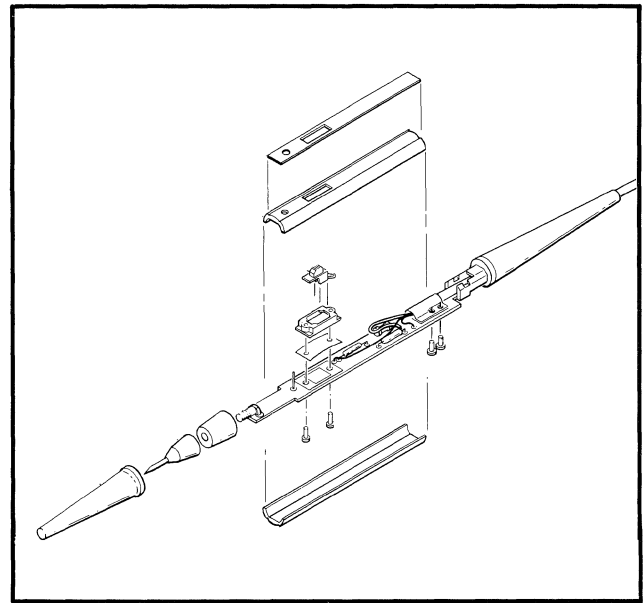

Figure 8-4. Data Probe Disassembly
a. To disassemble the Data Probe, unscrew the Data Probe tip and pull off the red window. Slide the bottom probe body half off first (this is the probe body half without the ground pin or switch). Lift the top probe body off, being careful not to bend the ground pin which protrudes slightly through the probe body half. Note the position of the probe switch key, which may now be removed. The A3 Data Probe Assembly printed circuit board can be separated from the cable assembly by removing the two small screws securing the pc board to the crimped cable strain relief. Disconnect the pc board by firmly grasping the cable boot while gently lifting the PC board, rocking it side to side until it clears the stops on the boot. See Figure 8-4.